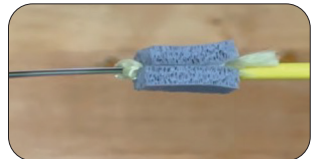

Figure 5
5. Optional: Wrap smaller diameter cable and strength member with provided gray foam for better securement. **(Figure 5)**